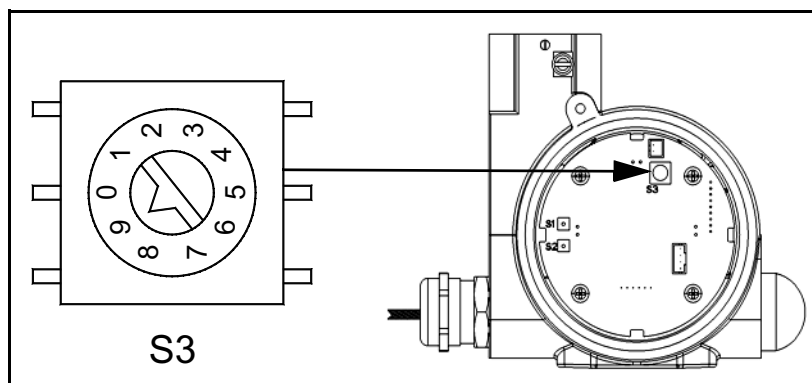

Figure 13: Setting Switch S3
Two buttons (**S1** and **S2**) and one rotary switch (**S3**) are located on the circuit board. Button **S1** is used to calibrate the 11.3% RH value with a lithium chloride salt solution, while button **S2** is used to calibrate the 75.4% RH value with a sodium chloride salt solution. Switch **S3** is set to position 9 for calibration mode (see Figure 13 below).
3. If the meter reading is stable at 5.80 mA (or 11.3% on a display), press **S1** for at least one second. This assigns the 11.3% RH value. If only the low RH calibration will be performed, return *Switch S3* to position 0 (see *Figure 13* on page 16). Otherwise, continue to the next section to calibrate the high RH reading.
3. If the meter reading is stable at 16 mA (or 75.4% on a display), press **S2** for at least one second. This assigns the 75.4% RH value. Return *Switch S3* to position 0 (see *Figure 13* on page 16).